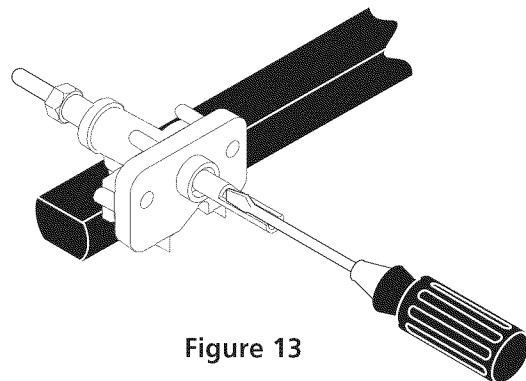

Figure 13
11.4 Adjust the "LOW" Setting of Surface Burner Valves (see Figure 13)